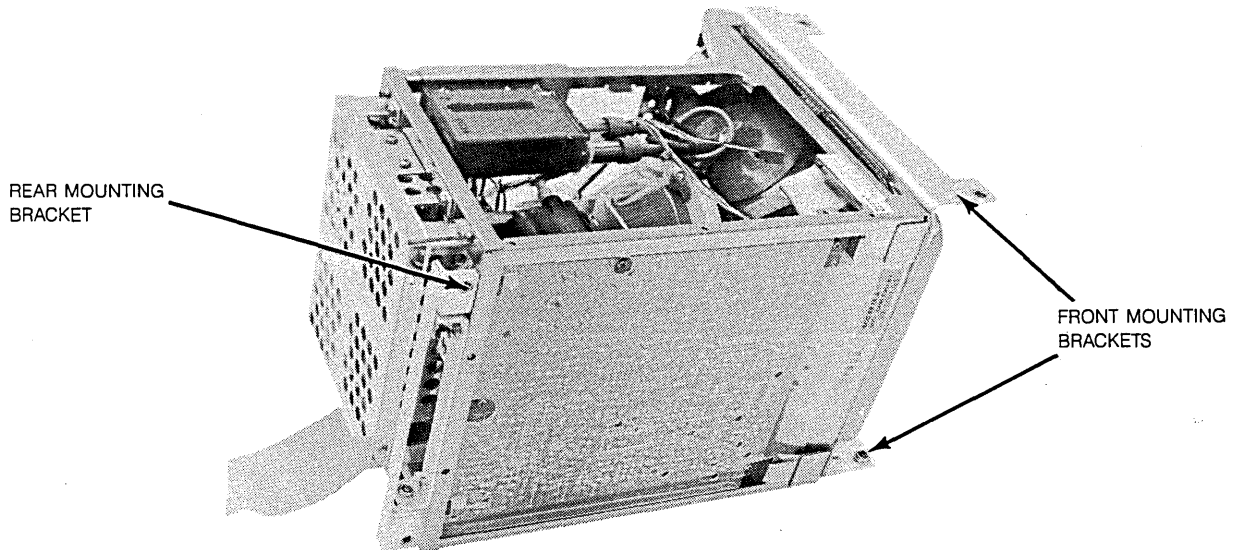

Figure 6-45. Color Module Rear and Front Mounting Bracket
- k. Remove rear mounting bracket with a Torx T-15 driver (see figure 6-45).
- p. Attach the frame mounting bracket to the rear module mounting bracket (see figure 6-45). Install hardware in the following sequence: screw, flat washer, rubber washer. Leave the bracket hardware loose. In a later step, when the module is correctly positioned, the hardware will be tightened.